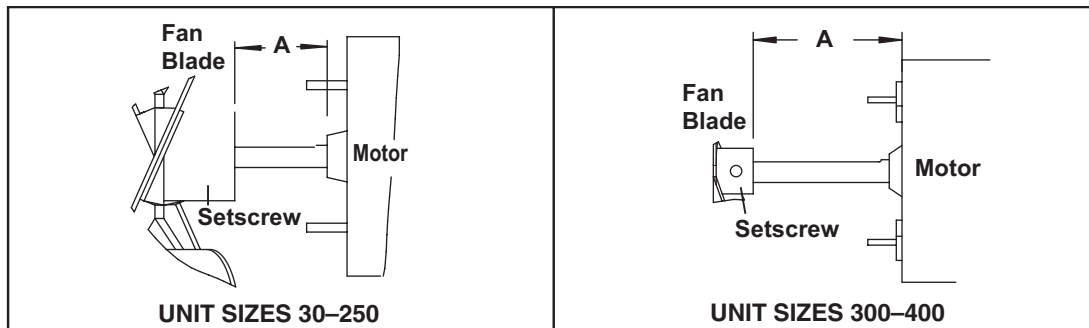

Figure 3. Fan Spacing
*See Figure 3 .
*See Figure 3.